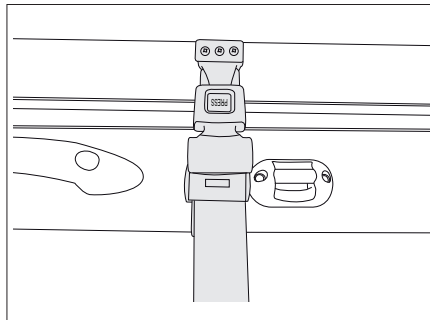

Fig. 166 Safety belt
- Loosen the retaining belt (Fig. 166).
- Attach the retaining belt (Fig. 166).